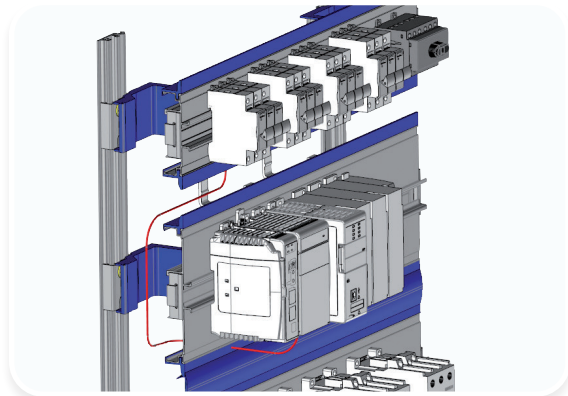

Figure 6
The component access point is easily accessible as nothing is blocking the way. The wire runs horizontally in between the two combs to the left or the right. **(To the left in fig. 6)**. Once you have reached the far left (or right) you can route the wire up and down in the U-shaped bracket (EM) until you reach the level of the point B. Then you go left or right horizontally until you reach the connection point B. The pattern is the same as the traditional wire way going horizontally and vertically. The vertical wire ways are now pushed on the side underneath the component level. The wiring is to be done loose as